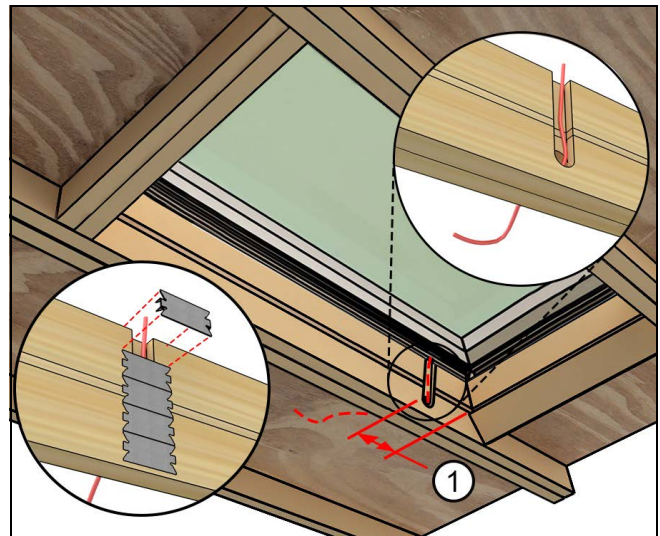

Figure 7
5. If installing an **Awaken product**, create a notch in rough opening for the power wire as needed. The center of the notch is nominally 1-3/8" to the sill RO edge. See Figure 7. Create notch large enough to run Romex cable per applicable electrical specification. Notch can be covered with plates as needed. If the drywall is not installed tight into the lining groove, add on-site insulation and trim for finished appearance and to prevent conditions that may contribute to condensation. *Note: Electrician needs to meet or exceed local codes. Unshielded wire should be covered by plate, anything under 1-1/2" no plate is required. Electrical route may need to be notched.*